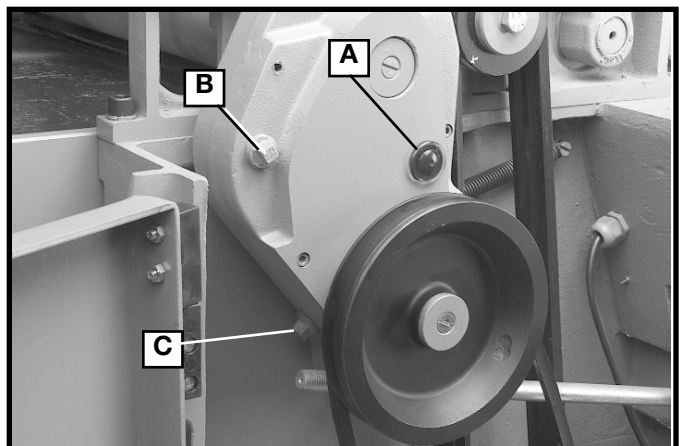

Fig. 43
3. The gear box oil should be changed once a year using extreme pressure gear oil, available from Delta in one pint cans under part number 999-01-013-1210. The gear box drain plug is shown at (C) Fig. 43. The oil fill screw is shown at (B) and the oil level indicator is shown at (A) Fig. 43.